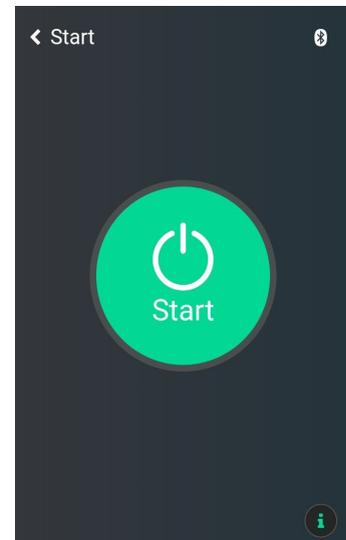

fig. 3
Step 5: Click on the start button (fig 3).